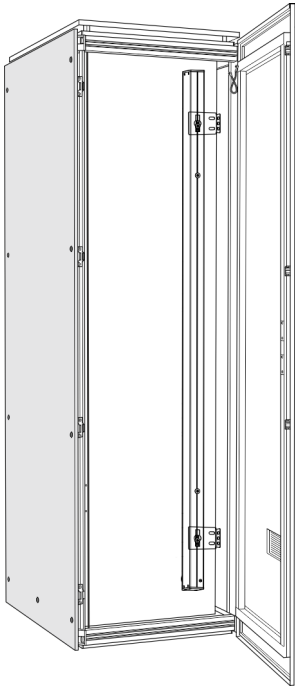

Fig. 16: Rack with PDU
4. ➔ Fit the PDU onto the mounting brackets (Fig. 16).